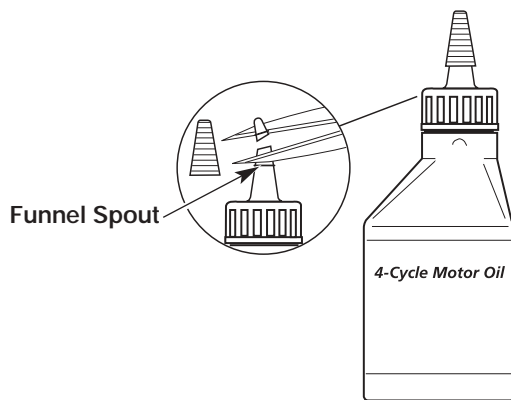

Figure 7
Your unit is supplied with one 3.4 fluid oz. (100 ml.) bottle of SAE 30 SF, SG, SH oil. See Figure 7.
1. Unscrew the top of the bottle of oil and remove the paper seal covering the opening. Replace the top. Next, cut the tip off the funnel spout. See Figure 7.